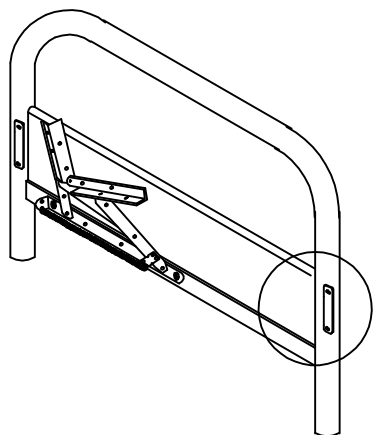

FIG. 2
ALIGN FRONT RAIL (18) FLAT END BRACKET TO HOLES IN SIDE PANEL (13). SECURE EACH CORNER WITH SCREWS (1) AND FLAT WASHERS (6). USE ALLEN WRENCH (9) TO TIGHTEN ALL SCREWS. REPEAT SAME STEPS WITH BACK RAILS (17). (SEE FIG. 2)